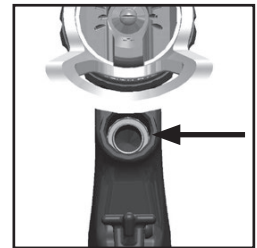

Fig. 18
5. **DO NOT REMOVE REAR SEAL FROM GUN BODY.** (See fig 18)
- e. Rear seal must look clean and in position in the bore. (See fig 18)